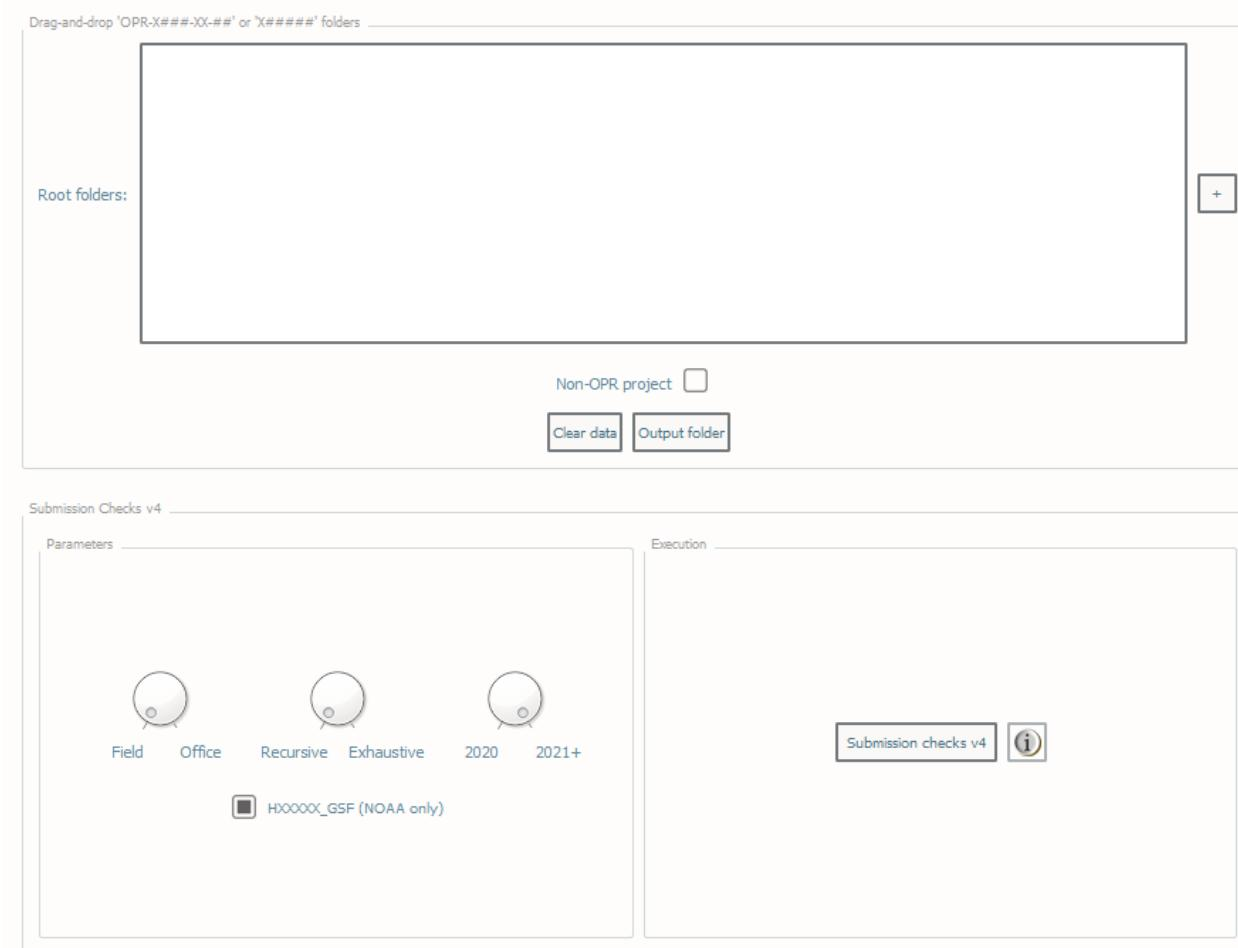

Fig. 2.55: The **Submission check** interface.
- In **Parameters** (Fig. 2.55, left side):
- In **Execution** (Fig. 2.55, right side), click **Submission checks v4**.